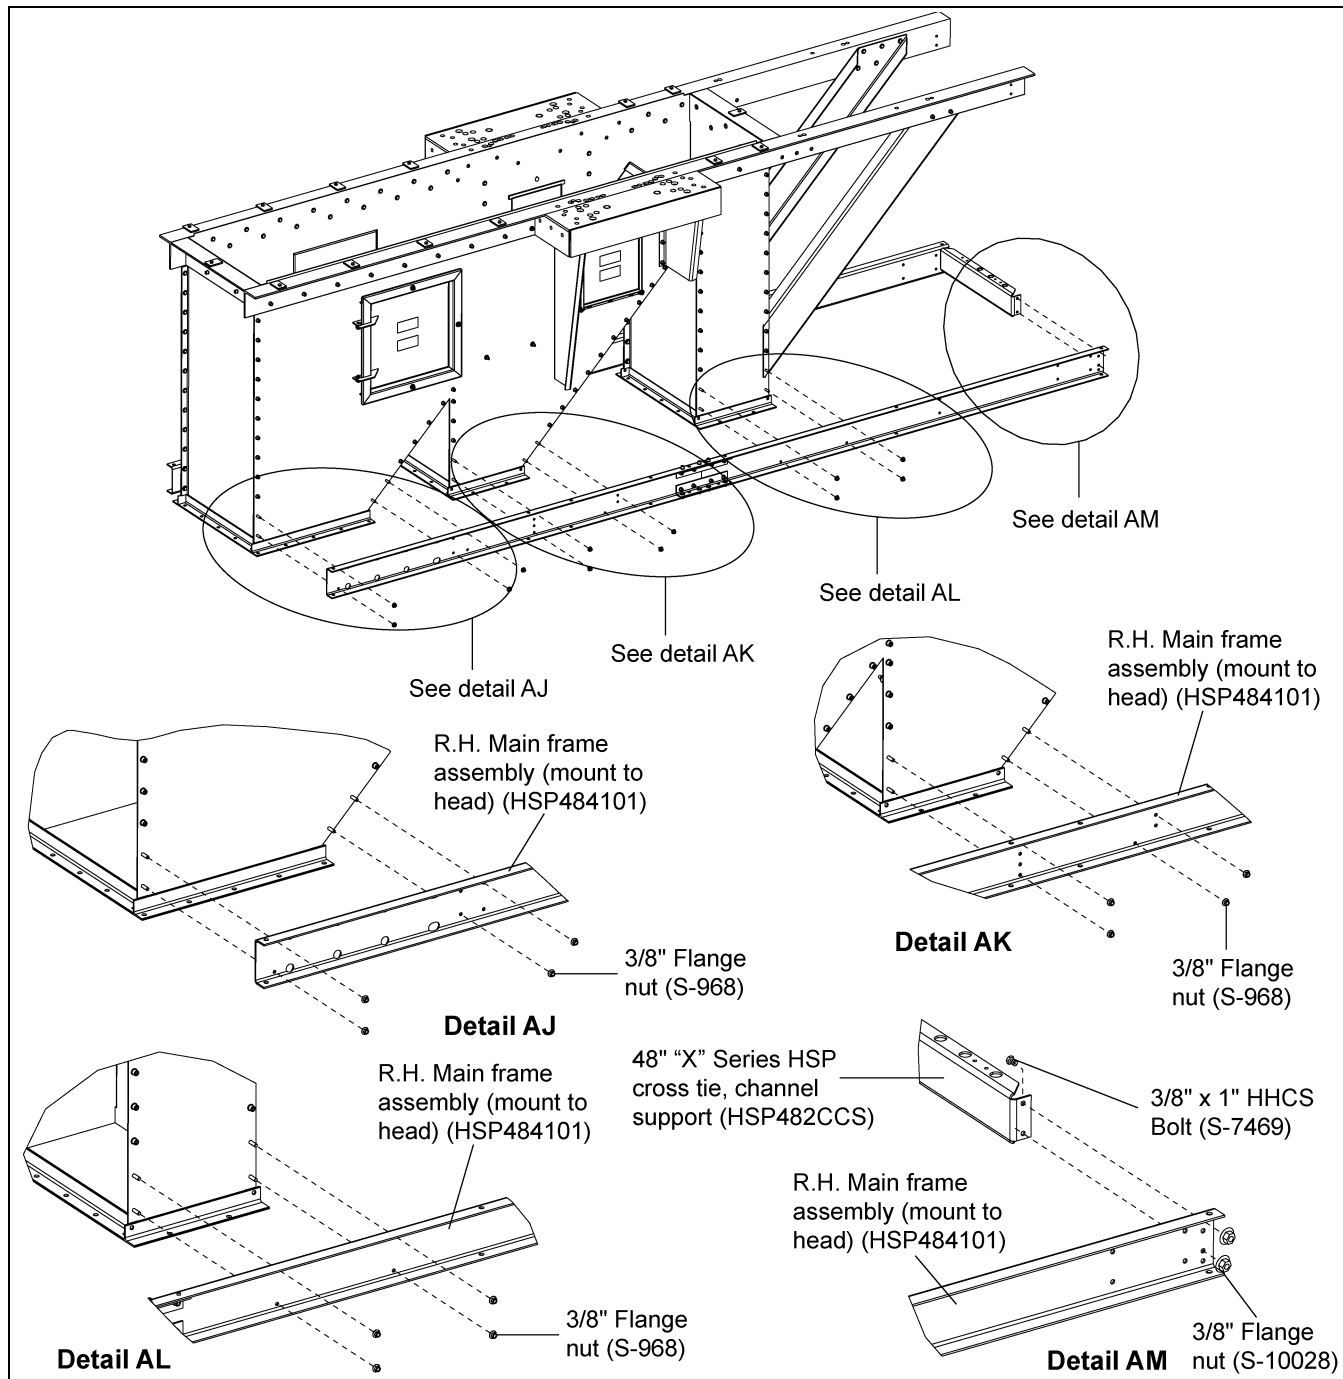
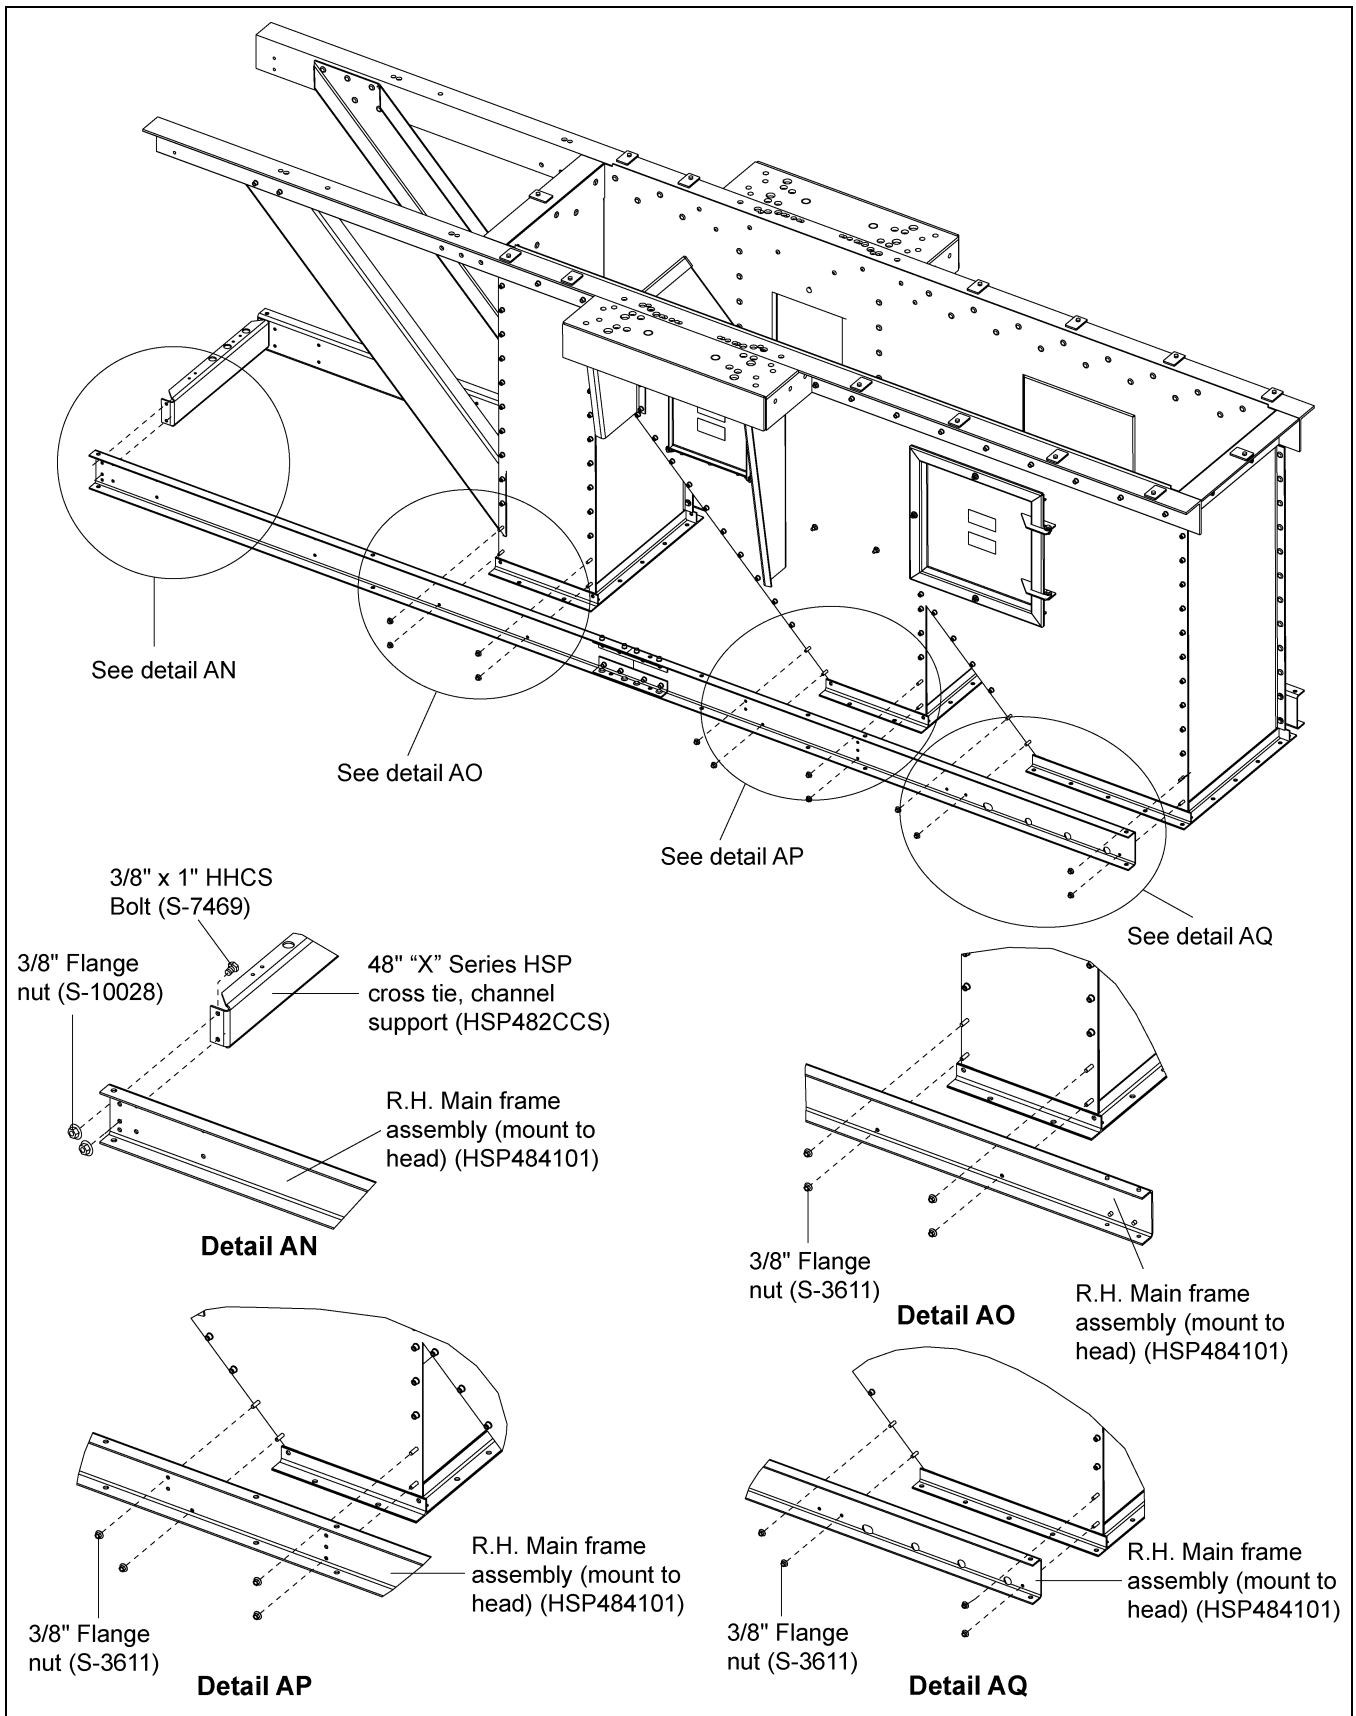

Figure 9A
Figure 9B
1. Align the bolt holes that are located next to the cross channel splice plate (HSP484039) of the cross channels (HSP482007X) to the main support channel (HSP484101) located on the hatch side. They all face the same direction except for the next to last on the discharge end. Fasten together using eight (8) 3/8" x 1" HHCS bolts (S-7469) and 3/8" flange nuts (S-968). *(See Figure 9A below and Figure 9B on Page 72.)*